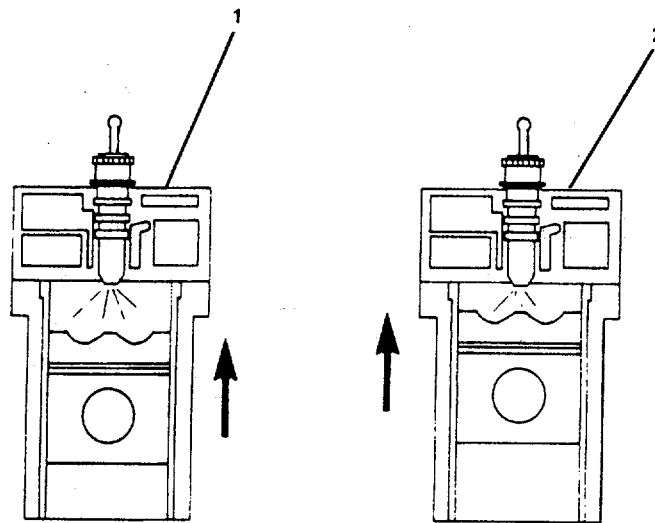

FIGURE 3-25. Advanced and Retarded Timing.
- (b) Advanced and Retarded Timing. Advanced timing (1, Figure 3-25) means the fuel is injected earlier into the cylinder during the compression stroke. Retarded timing (2) means the fuel injection occurs closer to TDC in the cylinder.